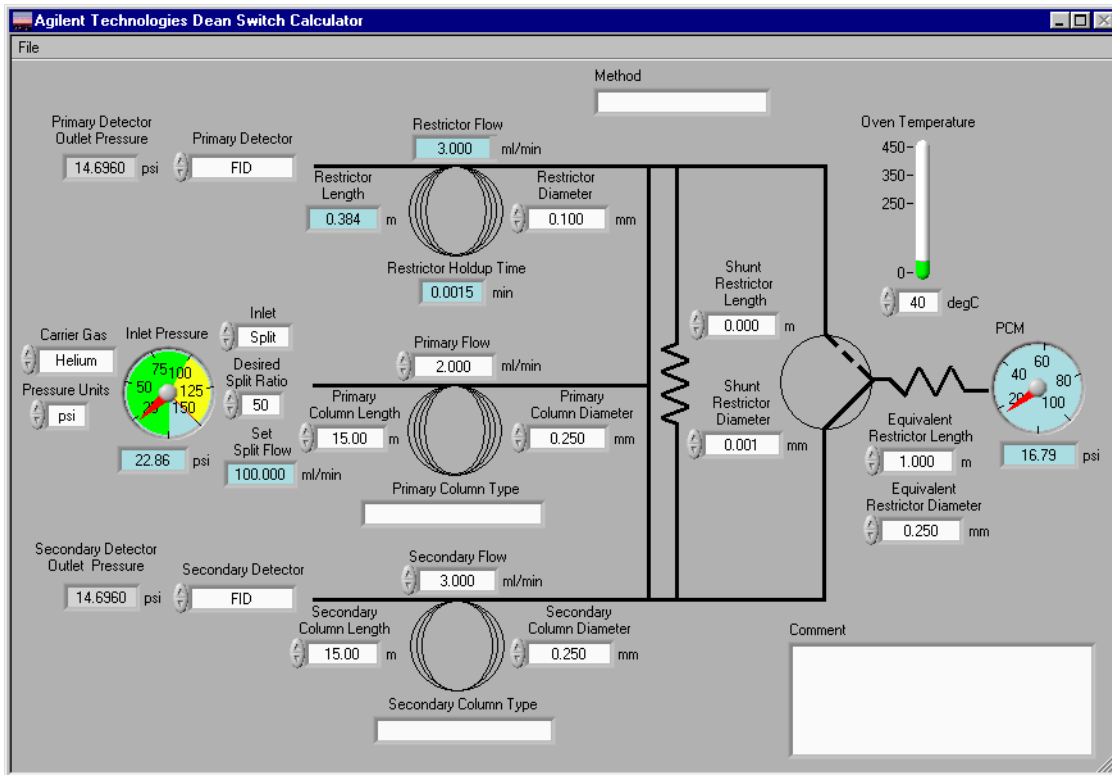

Figure 24 Calculating the Restrictor length
- Click **Start**, then select **Programs** and the **Deans Switch Calculator**. The calculator screen opens (Figure 24).